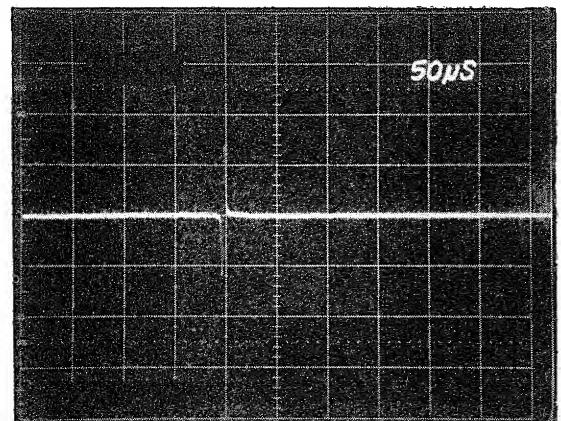

FIGURE 5 INDEX TIMING
- e. Observe the timing between the start of the sweep and the first data pulse. This should be $200 \pm 100 \mu$ sec. If the timing is not within tolerance, continue on with the adjustment. Reference Figure 5.